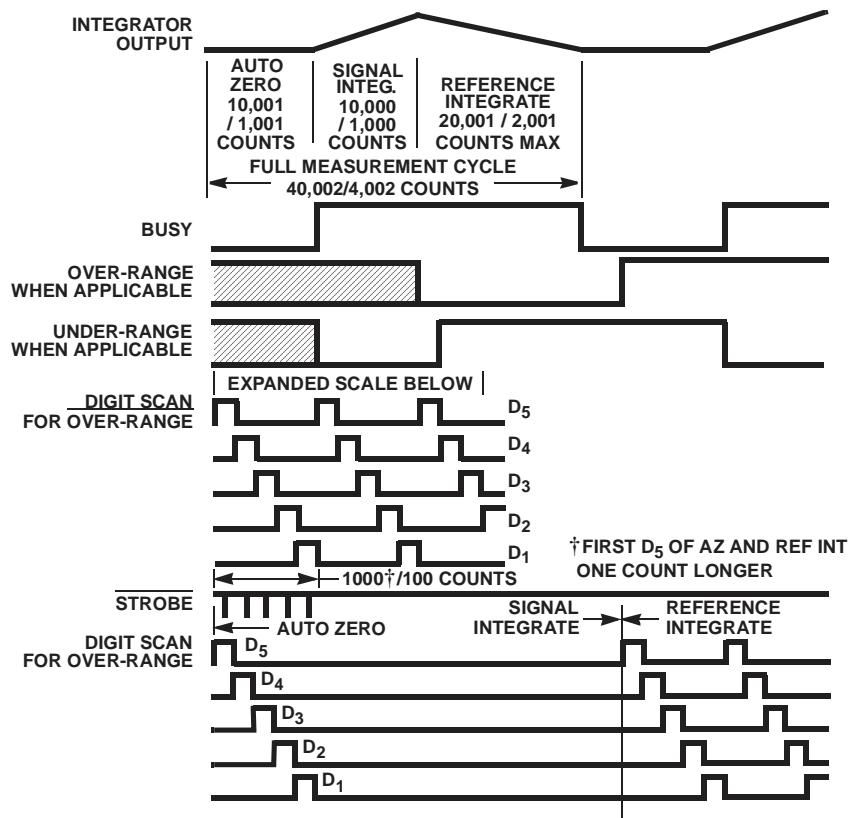

FIGURE 5. TIMING DIAGRAM FOR OUTPUTS
10. Tested in 3½ digit (2,000 count) circuit shown in Figure 5, clock frequency 12kHz. Pin 2 71C03 connected to GND.
11. Tested in 4½ digit (20,000 count) circuit shown in Figure 5, clock frequency 120kHz. Pin 2 71C03A open.